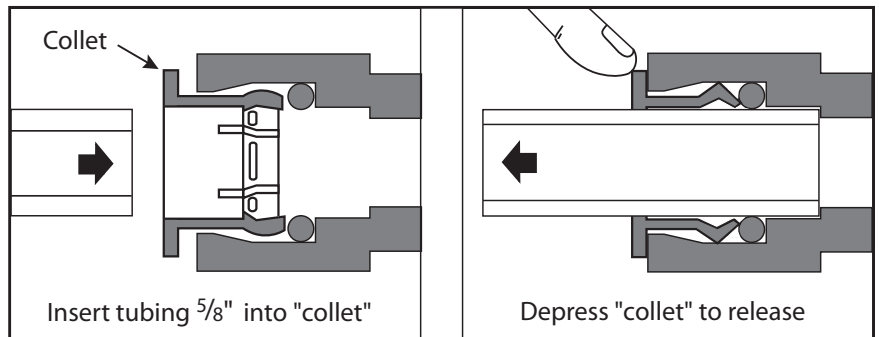

Figure 5, John Guest® “Speedfit” fittings
*(Before proceeding, study Figure 5 below)*